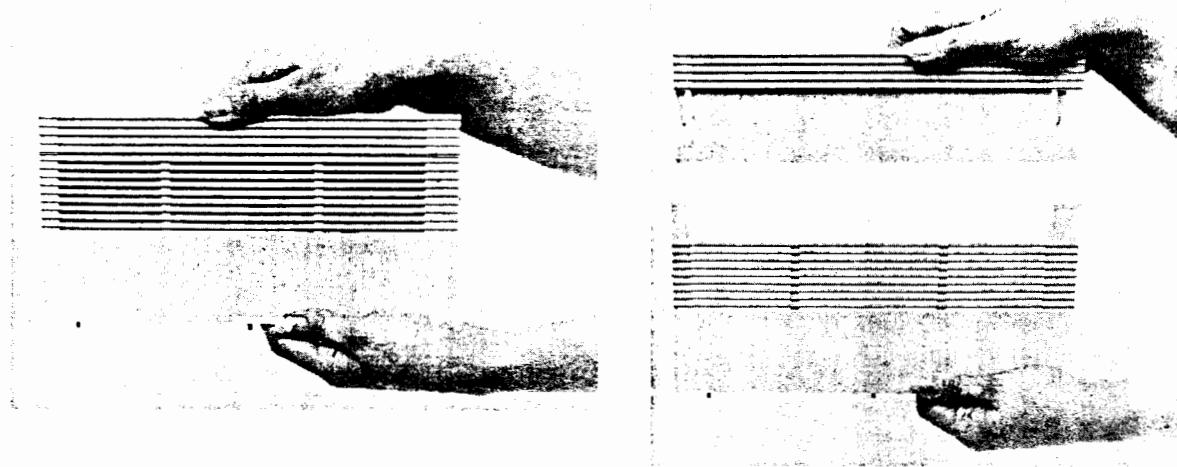

Figure 4-7. Removing the Filler Plate
8. Remove the filler plate from the printer cover (see figure 4-7) and replace the cover on the HP 150.